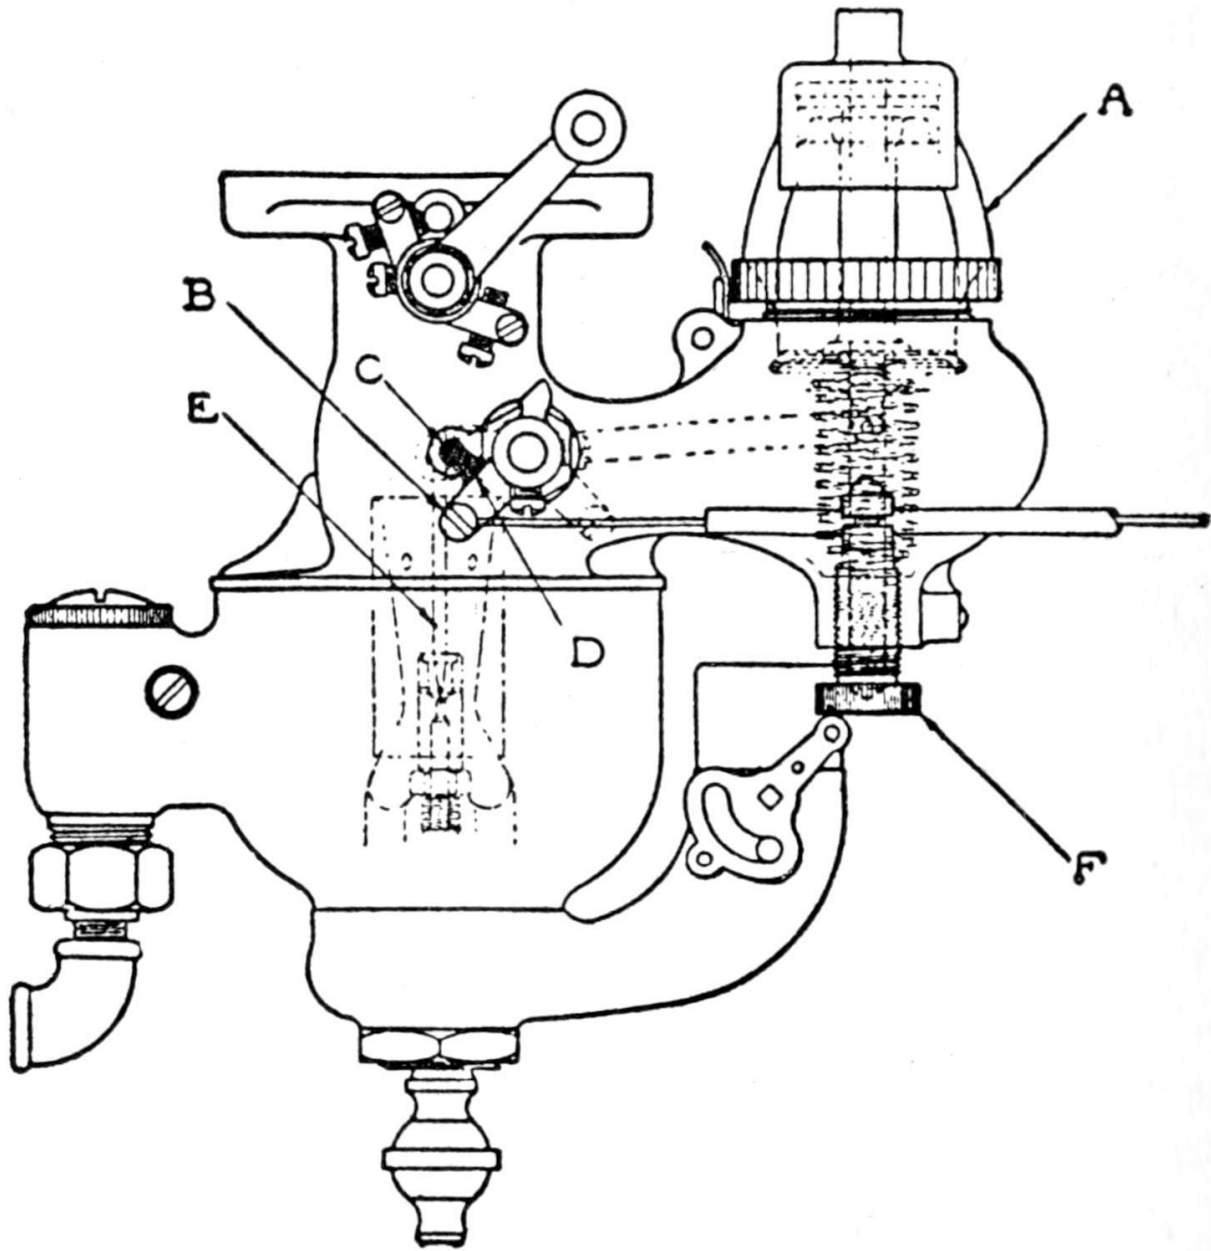

Fig. 38. Schebler Model R Carburetor Assembled
Fig. 38 shows a section view of operation and adjustment on the model “R” Schebler carburetor. This carburetor is designed for use on both four and six cylindered motors. It is of the single jet raised needle type, automatic in action, the air valve controlling the needle valve through a leverage arrangement. This leverage attachment automatically proportions the amount of gasoline and air mixture at all speeds. This type of carburetor has but two adjustments. The low speed adjustment which is made by turning the air valve cap and an adjustment on the air valve spring for changing its tension. (A) shows the air valve adjusting cap. (B) is the dash control leverage attachment. (C) is the air valve and jet valve connection. (D) is the boss that raises the jet valve needle and lowers the spring tension on the air valve giving a rich mixture in starting. The needle valve seats in E and controls the nozzle spray. (F) is the air valve spring tension adjusting screw.